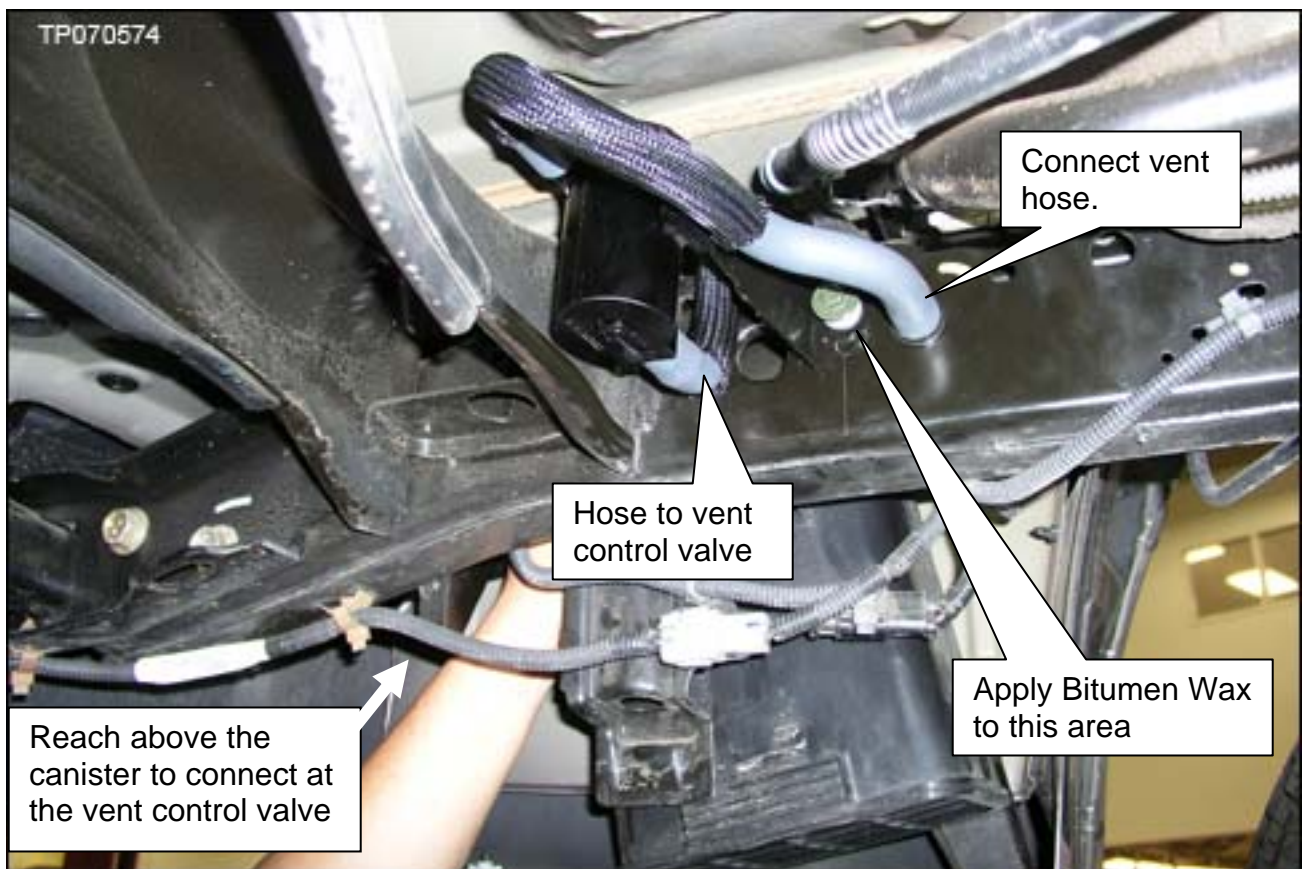

Figure 10
14. Attach the filter to the bracket and connect the hoses as shown in Figure 10.